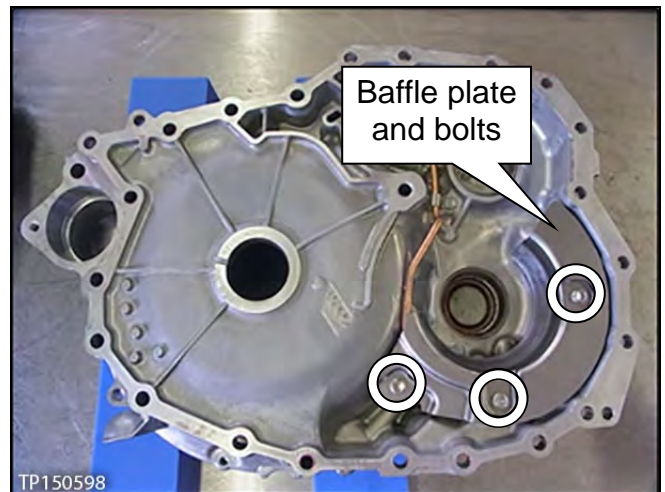

Figure 47
4. Remove the three (3) bolts, and then remove the baffle plate from the converter housing (see Figure 47).